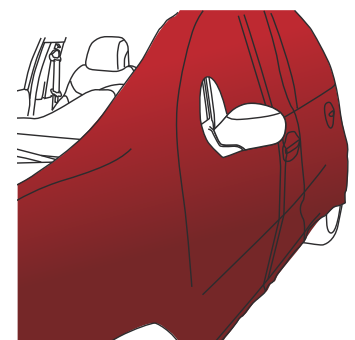

Figure 22
- The film is stretched over the entire surface area to be wrapped. Now you can apply the film (FIG. 22) according to the type of surface.